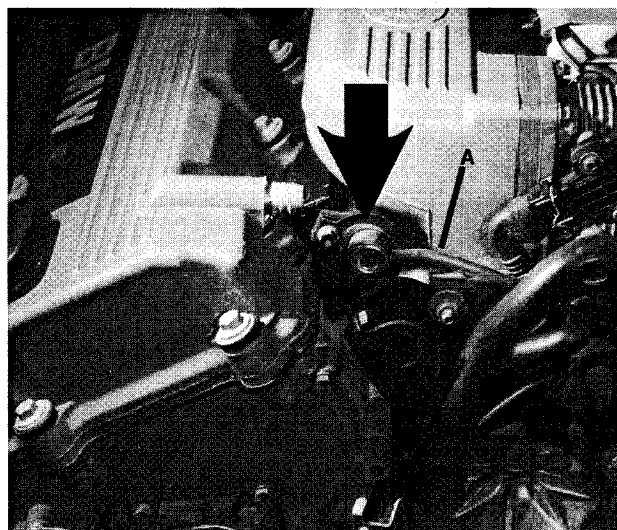

Fig. 19. Fuel pressure regulator (arrow) on M42 engine. Vacuum hose shown at A.
1. Disconnect vacuum hose from fuel pressure regulator. See Fig. 19.